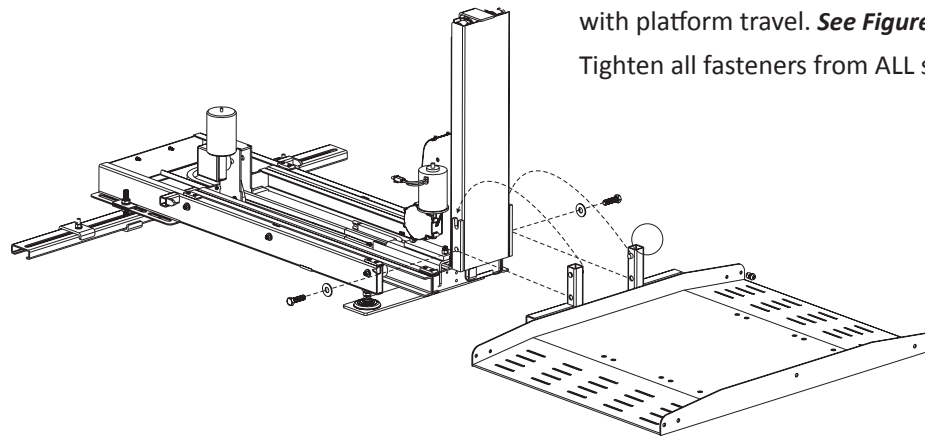

Figure 4-35
18. Thread $\frac{1}{2}$ -13 x 1- $\frac{3}{4}$ " L Hex head Bolts and $\frac{1}{2}$ " washers into threaded holes as shown. Test full motion of lift into and out of the vehicle. Be sure lift is level and no obstructions interfere with platform travel. *See Figure 4-35*